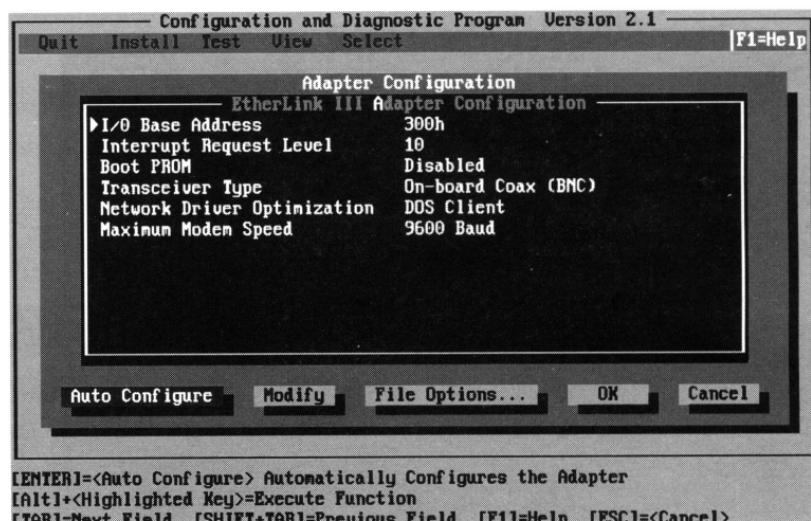

Figure 2-5. Configuration Dialog Box
A configuration screen similar to that shown in Figure 2-5 appears.
4. From the screen similar to the one shown in Figure 2-5, make sure the <Auto Configure> command button is highlighted and press [Enter].
A screen similar to the one shown in Figure 2-5 appears.